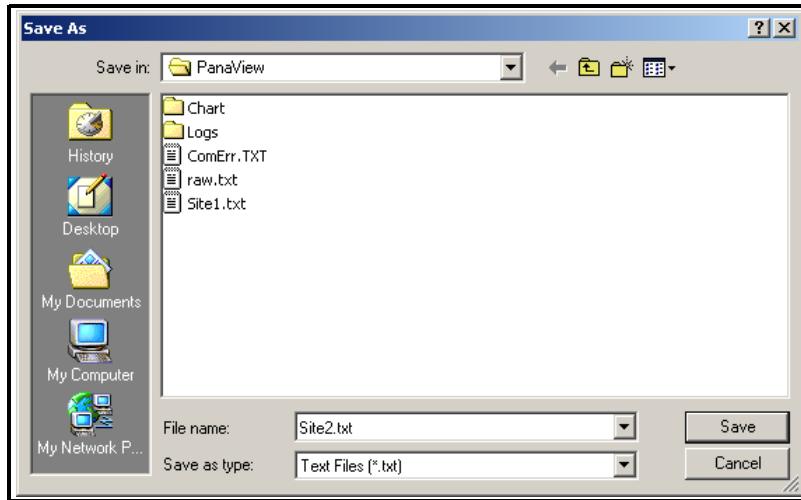

Figure 30: **Save As** Window
To *save* the raw signal, click *Save*. A window opens similar to Figure 30 below. Enter the desired name, and click *Save* to save the signal as a text file.
2. Click *Save Site to PC*. A window opens similar to Figure 30 on page 101.